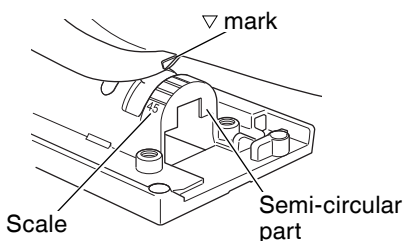

Fig. 14
- (2) Align the scale (from 0 degrees to 45 degrees by 15-degree increments) of the semi-circular part of the base with the [▽] mark on the gear cover. (Fig. 14)